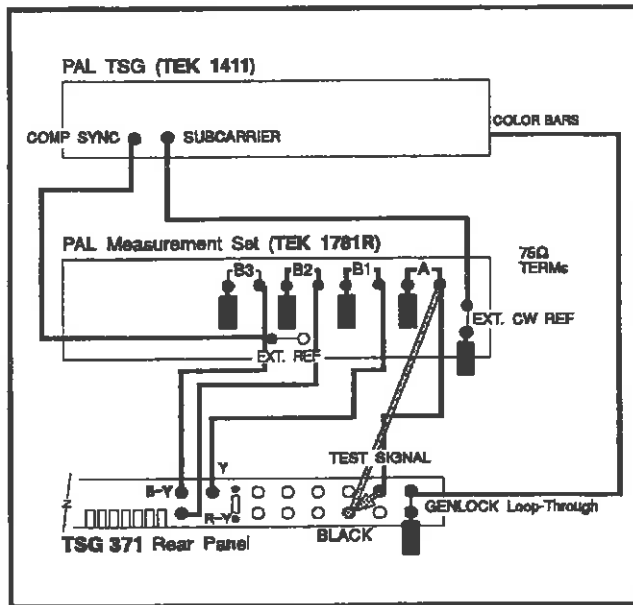

Fig. 5-11. Move the cable as shown to measure the BLACK .
- d. At the rear panel of the TSG 371, move the cable from the TEST SIGNAL output to the lower BLACK output (see Fig. 5-11).